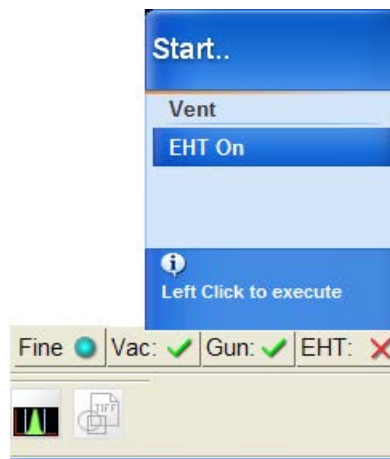

Figure 12: Starting up the EHT.
7. Turn on the electric high-tension (EHT) by left clicking on 'EHT' at the lower right of the SmartSEM program and selecting 'EHT On' (Figure 12).